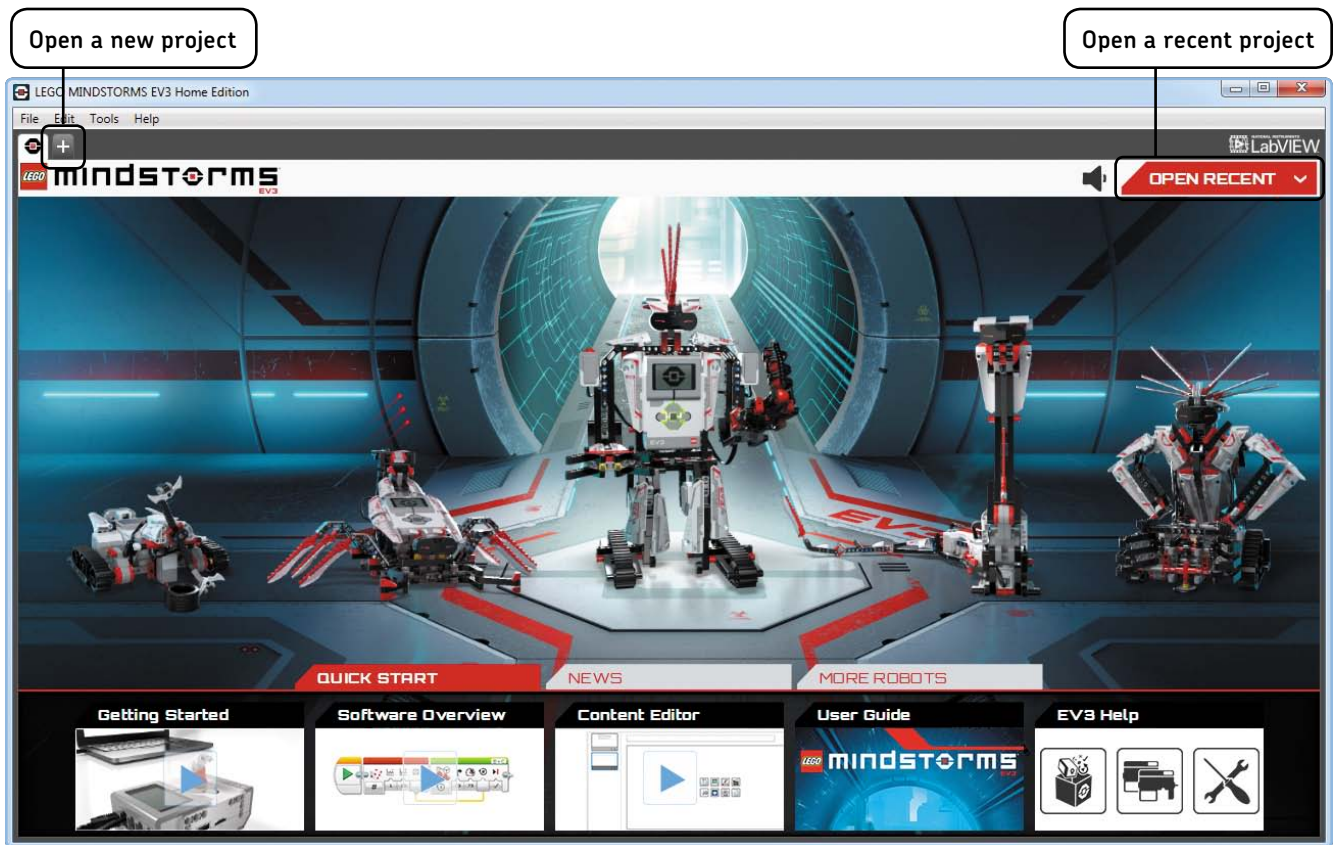

Figure 3-2: The EV3 software lobby. Click the + symbol to start a new programming project.
3. Open a new programming project by clicking the **+** symbol, as shown in Figure 3-2.
To open a project you saved earlier, click **File > Open Project** or use the **Open Recent** button in the lobby (see Figure 3-2), and locate your project file (usually in *Documents\LEGO Creations\MINDSTORMS EV3 Projects*).